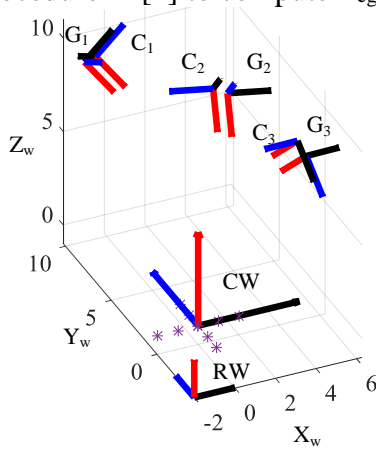
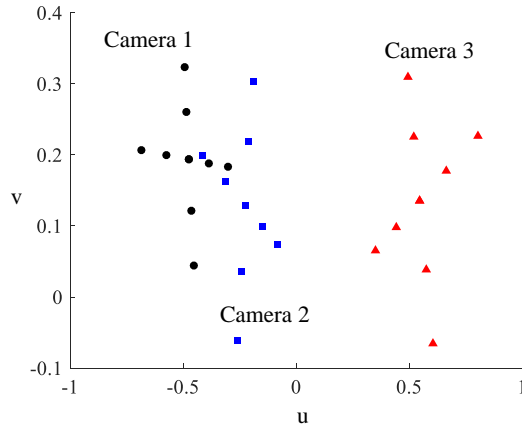

Fig. 2a
Fig. 2b
- (b). Fig. 2a shows the setup for performing an eye-on-hand calibration where a stationary planar calibration board is viewed at 3 different locations by a camera mounted on a robot gripper. Fig. 2b shows the images in three camera image planes. The transformation matrices from CW to C_i can be determined by the camera calibration ($[\mathbf{H}_{ci}]$ where $i=1, 2, 3$). The rigid body transformations of the robot gripper from Station 1 to 2 and 2 to 3 ($[\mathbf{H}_{g12}]$ and $[\mathbf{H}_{g23}]$) are given by the robot controller. Write a MATLAB program for the eye-on-hand calibration. Using the given ($[\mathbf{H}_{c1}]$ $[\mathbf{H}_{c2}]$ $[\mathbf{H}_{c3}]$) data in 'hand_eye_data.mat' to illustrate your solutions:
- 2) Obtain the equivalent angle-axis representation (\mathbf{n}, θ) for each of the rotation matrixes; $[\mathbf{R}_{c12}], [\mathbf{R}_{c23}], [\mathbf{R}_{g12}]$ and $[\mathbf{R}_{g23}]$. Next, compute $P_{c12}, P_{c23}, P_{g12}$ and P_{g23} . Check your solutions by computing $[\mathbf{R}_{g12}]$ and $[\mathbf{R}_{g23}]$ using Eqns. (8) and (10) in [2] and comparing with those given in the data file 'hand_eye_data.mat'.